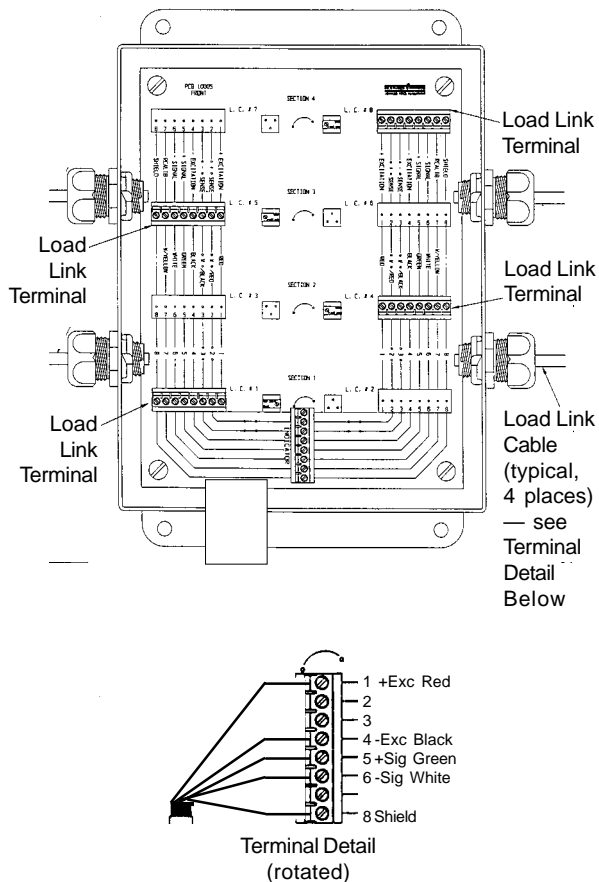

Figure 3-9. Wiring Load Links to Stainless Steel Junction Box
2. See Figure 3-9. Thread the Load Link cable through a fitting in the side of the box closest to the terminal you will be using for the Load Link. Leave an adequate length of cable between the Load Link and fitting to provide a drip loop.